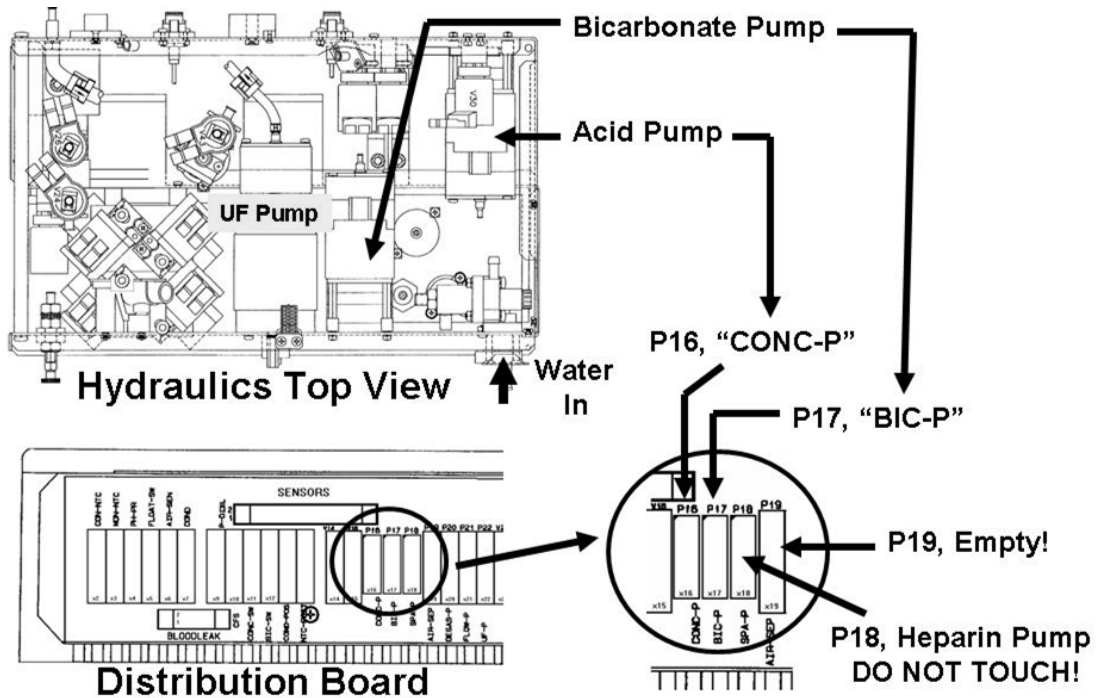

Figure 63 – Distribution Board / Hydraulics Top View (Pumps)
- A) Per Figure 63 (page 442), ENSURE the pumps are installed with their output (red or blue) nozzles towards the top and the cables extend from the side. **If not, this may be the problem!**
- E) Allow thirty (30) seconds THEN, WITHOUT LOOKING AWAY, watch the pump symbols for up to two (2) minutes OR until if one turns pink! FOUR (4) possible scenarios 1) or 2) or 3) or 4) below:
- a) WITHOUT LOOKING AWAY, watch **AAcid** versus **Acid** for up to five (5) minutes. If **AAcid** REMAINS within three (3) of **Acid** the Acid Pump System is okay. In this event continue to part b. If **AAcid** does NOT remain within three (3) of **Acid** then TWO (2) possible bad components: **1)** Bad ACID pump OR; **2)** Bad Actuator-Test Board.
- b) Watch **ABic** versus **Bic** for up to five (5) minutes. **NOTE:** If a disposable bi/bag is attached it is normal for **Bic** AND **ABic** to change slightly but should remain within three (3) of each other. If **ABic** REMAINS within three (3) of **Bic** the Bicarb Pump System is okay! If **ABic** does NOT remaining within three (3) of **Bic** then TWO (2) possible bad components: **1)** Bad BICARB pump OR; **2)** Bad Actuator-Test Board.
- B) Per Figure 63 above, unplug the Acid Pump cable from distribution board position “P16, CONC-P”. **CAUTION! Avoid the Heparin Pump connector at position “P18”.**
- G) Allow thirty (30) seconds THEN, **ignoring the BIC symbol**, watch the CONC symbol for up to two (2) minutes: **1) EVER pink (solid or blinking)? OR 2) ALWAYS white?**
- c) Per Figure 63 above, the Acid Pump is bad.
- b) Per Figure 63 (page 442), return both pump cables to their distribution board positions.